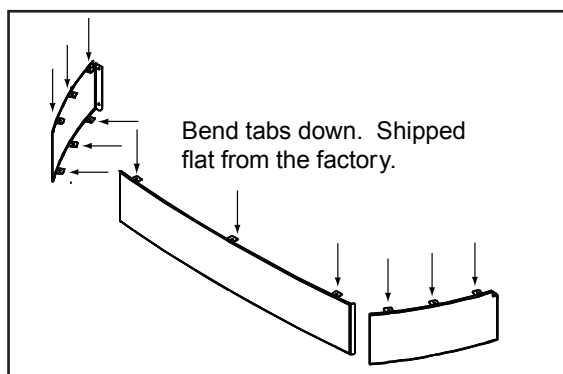

Figure 21.1
2. Lay front and sides face down. Bend the tabs down toward the inside. **Figure 21.1.**